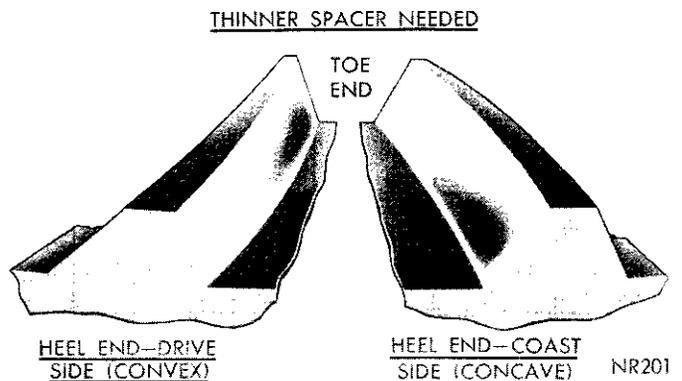
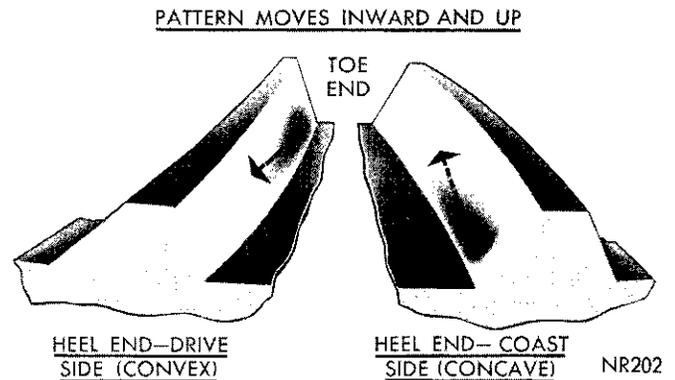

Fig. 35—Incorrect Tooth Contact Pattern (Decrease Spacer Thickness)
Fig. 36—Effect on Tooth Contact Pattern as Spacer Thickness is Decreased
(4) If after observing the contact pattern you find it resembles that in (Fig. 35), the drive pinion is too close to the ring gear, the pattern will appear low on the toe on drive side and low heel contact on coast side. To correct this type tooth contact pattern, decrease the thickness of the rear pinion bearing mounting spacer (Fig. 36), which will cause the low toe contact on drive side to raise and move toward the heel; low heel contact on coast side will raise and move toward the toe.